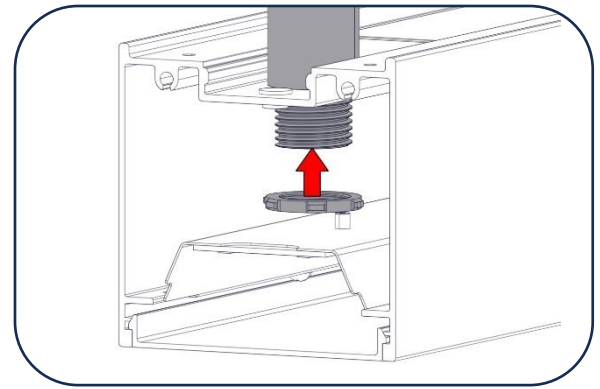

Figure 9
28. Secure the fixture to the Stem at each end using the included ½” lock nuts. [Figure 9]